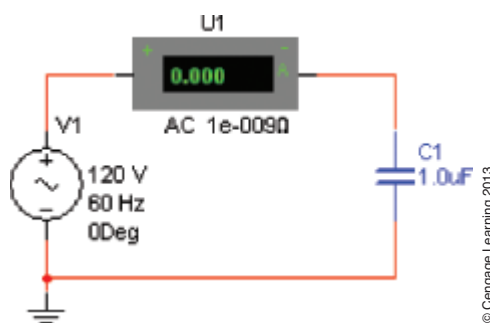

FIGURE 16–58 The source to use here is the power voltage source.
37. Create the circuit of Figure 16–58 on your screen. (To access the power ac source, right-click *View* and ensure that *Power Source Components* is selected. Use your mouse to locate its icon on your screen, click and the source attaches to your pointer. Move it to your workspace screen and click to place. To locate the ammeter, click *View* and ensure that *Measurement Components* is selected. Use your mouse to locate its icon and place it on your screen.) Double-click the ammeter symbol and set Mode to AC. Click the ON/OFF power switch to energize the circuit. Compare the measured reading against the theoretical value.
38. Multisim can be used to plot capacitive reactance versus frequency. Create the Multisim equivalent of the PSpice circuit of Figure 16–46. Click *Simulate, Analyses, AC Analysis*, set *FSTART* to **10 Hz** and *FSTOP* to **1 kHz**. Set *Sweep type* as *Decade* and *Vertical scale* as *Linear*. Click *Output*, create the expression $V(1)/I(C1)$, then click *Simulate*. You should get a magnitude graph similar to Figure 16–46 on your screen.
39. Create the circuit of Figure 16–53 on your screen. Use a source of $100\text{ V}\angle 0^\circ$, $L = 0.2\text{ H}$, and $f = 50\text{ Hz}$. Solve for current \mathbf{I}_L (magnitude and angle). See note below.
40. Plot the reactance of a 2.387-H inductor versus frequency from 1 Hz to 500 Hz and compare to Figure 16–29. Use a linear X-axis scale.